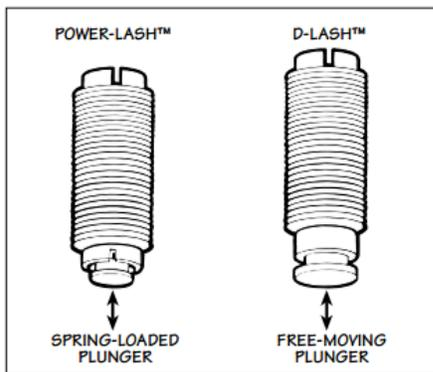

FIG. 6
3. Inspect the slave piston adjusting screw. The plunger on both the Power-Lash and the D-Lash should protrude from the bottom of the screw and should move freely. The Power-Lash should have light spring pressure present when depressed (see Fig. 6 on page 4). The D-Lash does not contain a spring. Replace the entire screw assembly if any defect is found.